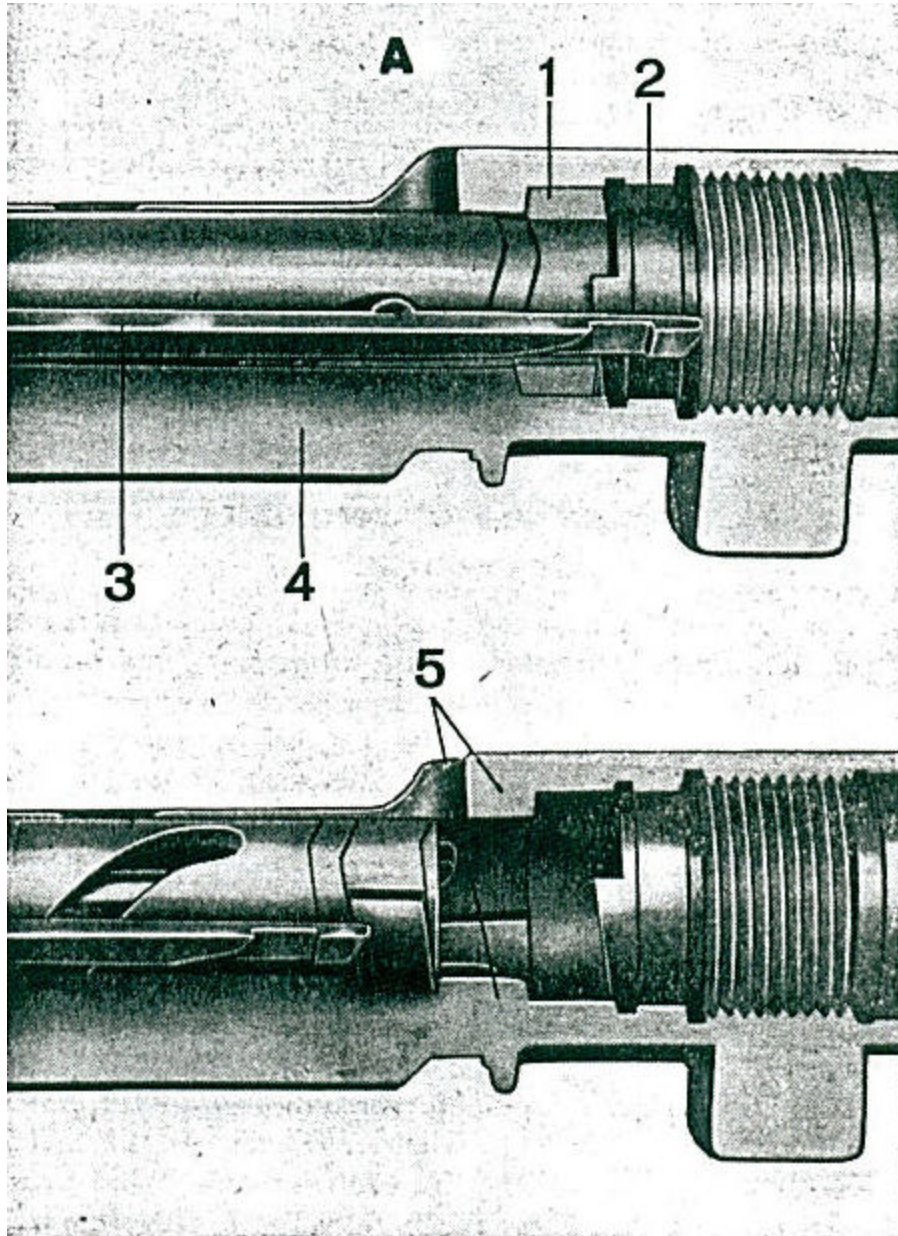

Fig. 18
2. Unlocking and opening the bolt (Fig. 18)